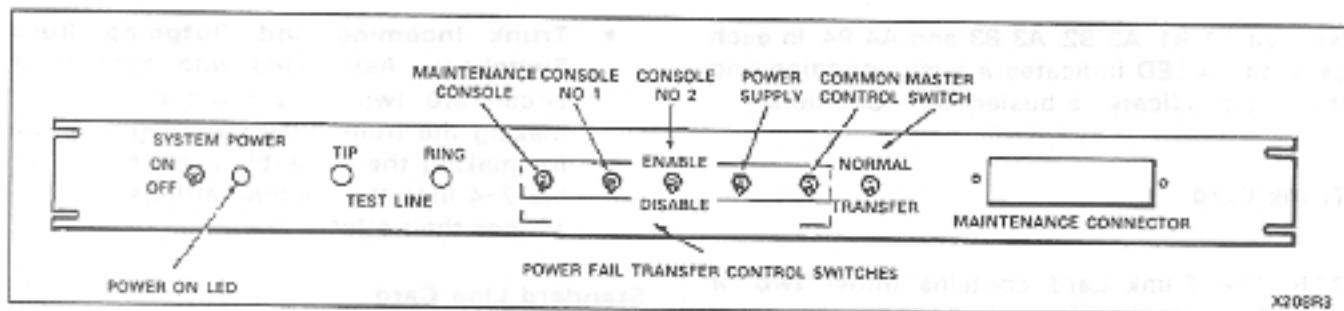

Fig. 2-4 Maintenance Panel
2.19 At the top of the equipment cabinet is the maintenance panel (Fig. 2-4). This panel provides the service personnel with access to the system through the maintenance console connector and test line terminals. Also housed on the maintenance panel are the six Power Fail Transfer Control Switches, a system Power ON/OFF switch and a POWER ON LED.